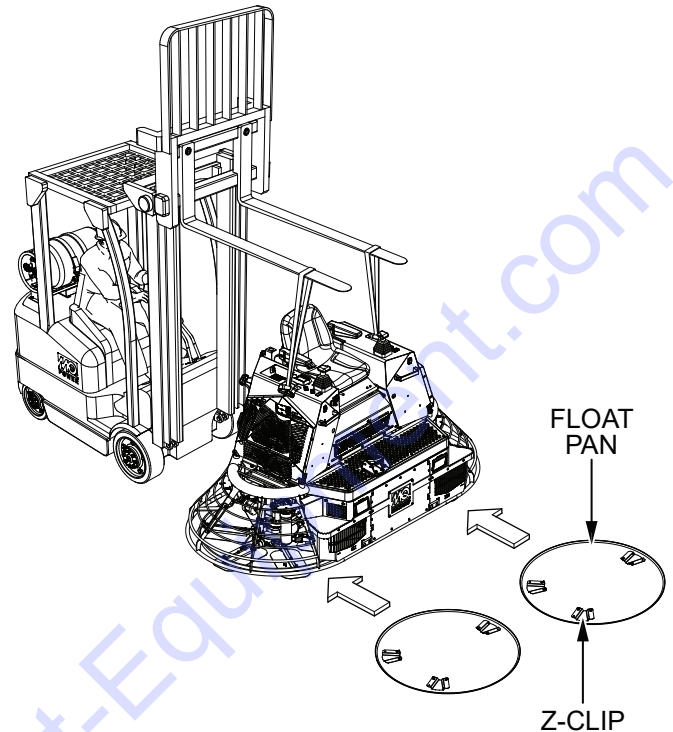

Figure 59. Float Pan Positioning
1. Lift the trowel just enough to slide float pans with Z-clips under the blades (Figure 59). Slowly lower the trowel onto the pans with the blades adjacent to the Z-clips.